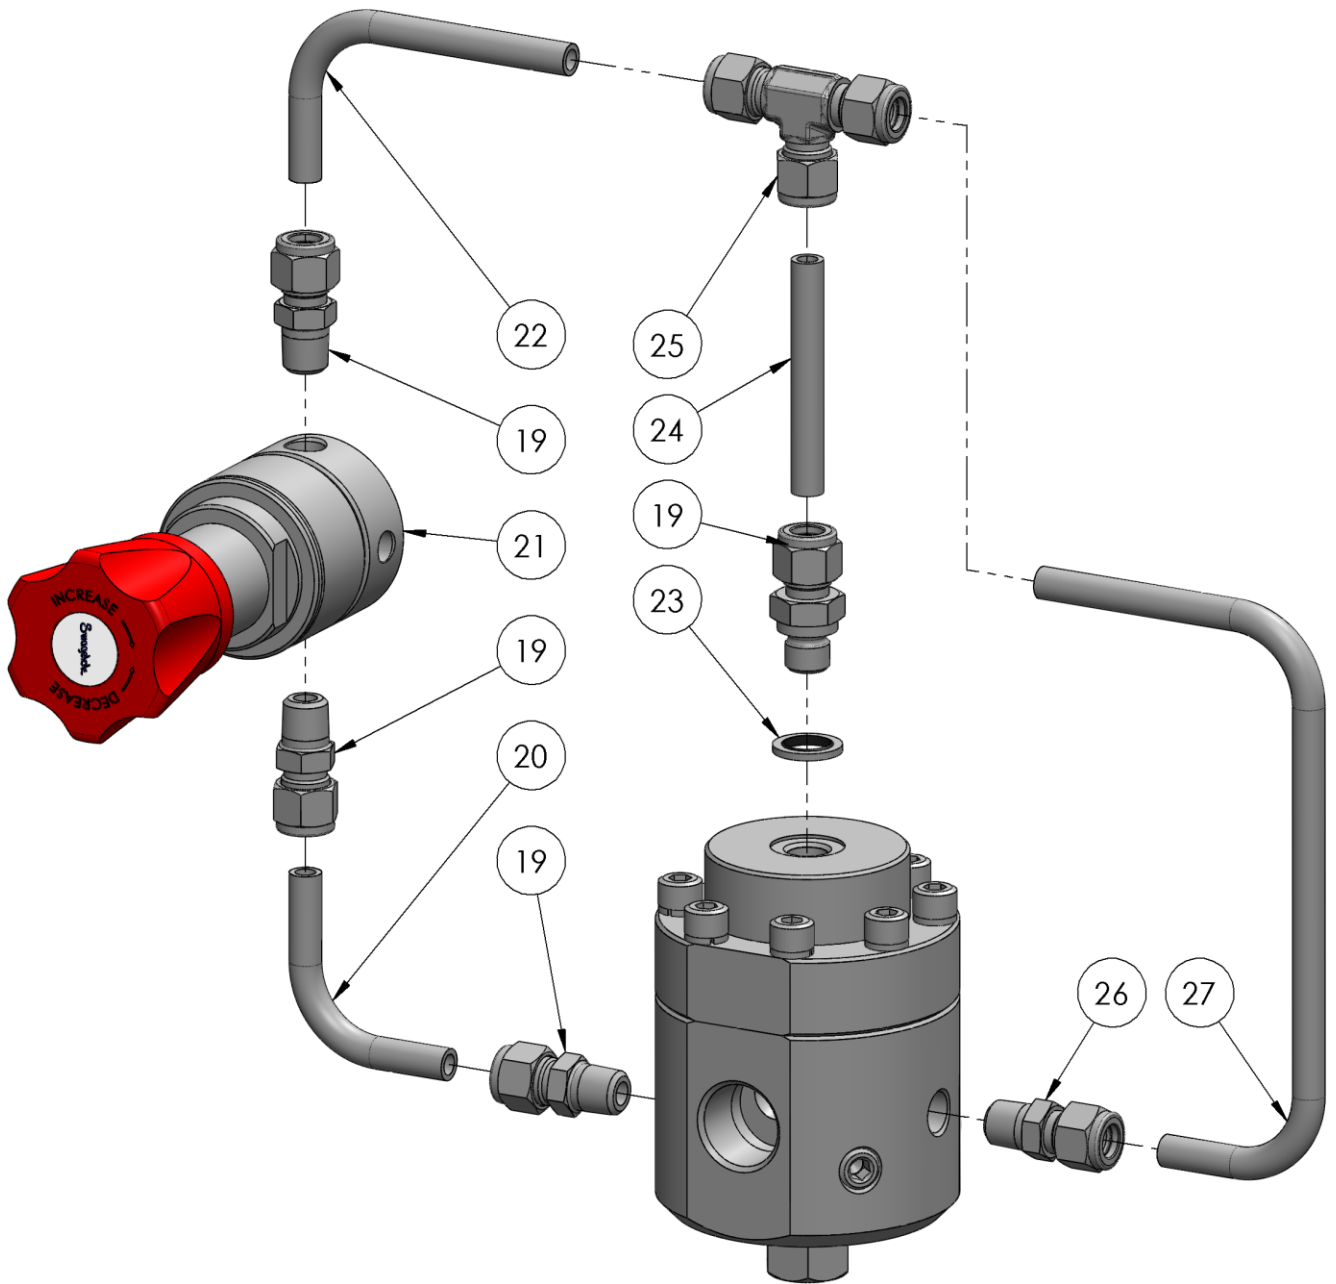
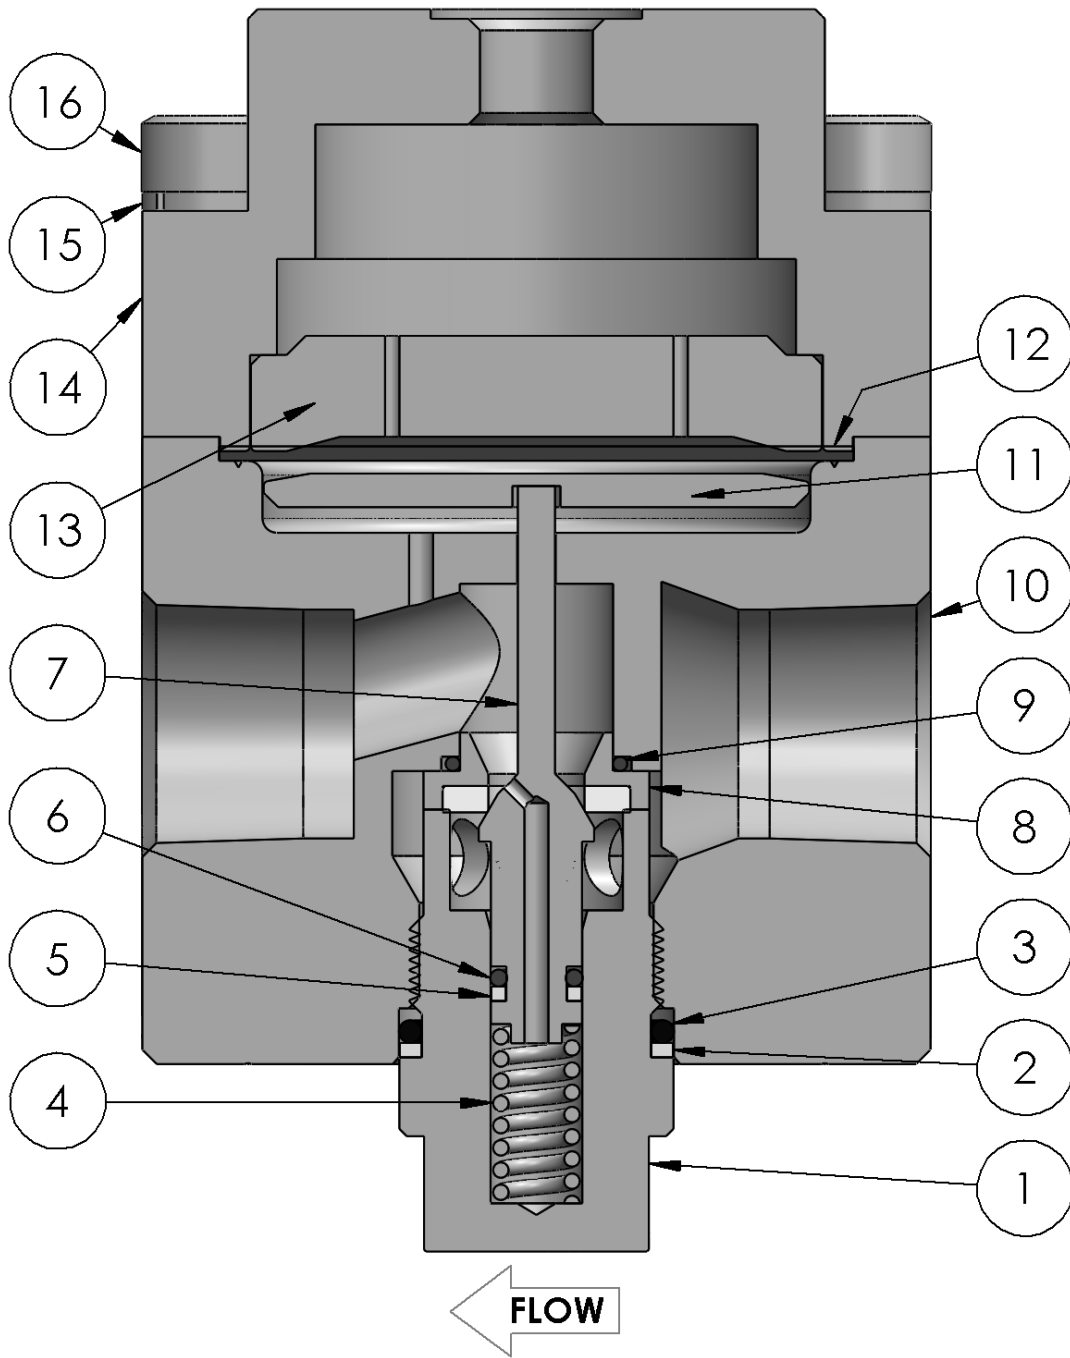

Fig 7
Fig 8
1. Secure the body (10) in a vise.
2. Fit the body plug O-ring (3) and, if present, body plug backup ring (2) onto the body plug (1). Ensure their orientation is correct per Fig 8.
3. Fit the seat O-ring (9) onto the seat (8).
4. Insert the seat (8) into the body (10). The poppet (7) can be used as an insertion tool if required. Take care not to damage the seat (8) and poppet (7) if doing this.
5. Insert the O-ring (6) and backup ring (5) onto the poppet (7). Ensure their orientation is correct per Fig 8.
6. Lightly lubricate the poppet O-ring (6) then stack the poppet (7) and poppet spring (4) through the seat (8).
7. Lightly lubricate the body plug threads (1) and assemble over the spring (4) and into the body (10). Torque to 37 lbf·ft (50 N·m) while ensuring the body plug O-ring (3) is not pinched.
8. Place the diaphragm plate (11) onto the poppet (7).
9. Place the diaphragm (12) onto the diaphragm plate (11) and locate it in the body (10).
10. Place the dome plate (13) centrally onto the diaphragm (12) then cover with the dome (14).
11. Lightly lubricate the cap screw threads (16) then use them and the washers (15) to secure the dome (14) to the body (10). Torque to 30 lbf·ft (40 N·m).
12. If present, install the feed tube (20), outlet tube (22), dome tube (24), bleed tube (27), tee fitting (25), and pilot regulator (21) per Fig 7. Ensure the bleed tube (27) is connected to the bleed fitting (26). This can be identified by its reduced internal orifice.